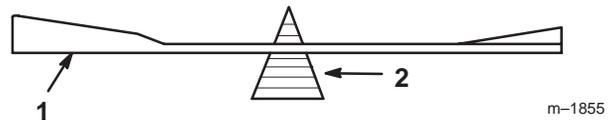
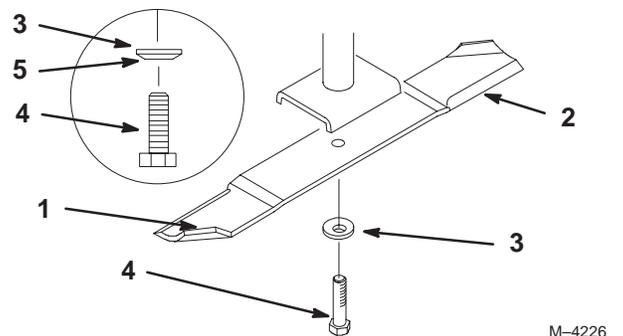

Figure 31
Figure 32
1. Hold the blade end using a rag or thickly-padded glove. Remove the blade bolt, spring disk and blade from the spindle shaft (Fig. 32).
2. Check the balance of the blade by putting it on a blade balancer (Fig. 31). If the blade stays in a horizontal position, the blade is balanced and can be used. If the blade is not balanced, file some metal off the end of the sail area only (Fig. 32). Repeat this procedure until the blade is balanced.
1. Install the blade onto the spindle shaft (Fig. 32).
2. Install the spring disk and blade bolt (Fig. 32). **Torque the blade bolt to 85–110 ft-lb (115–150 N•m).**